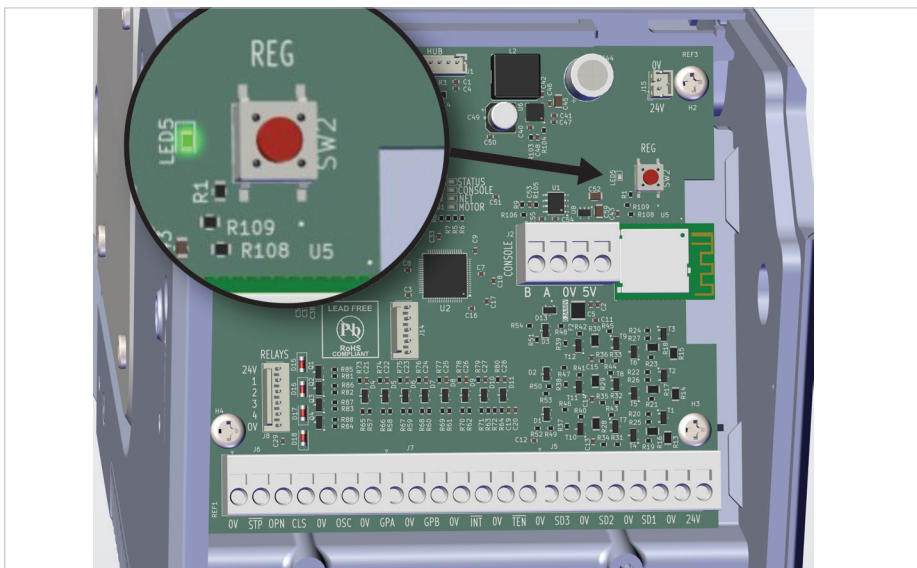

Fig:32
3. If the green LED5 to the left of the red REG button on the main control board is lit (see Fig:32), the drive unit is ready for pairing. If it is not lit it is already paired to a wall console and must be unpaired.